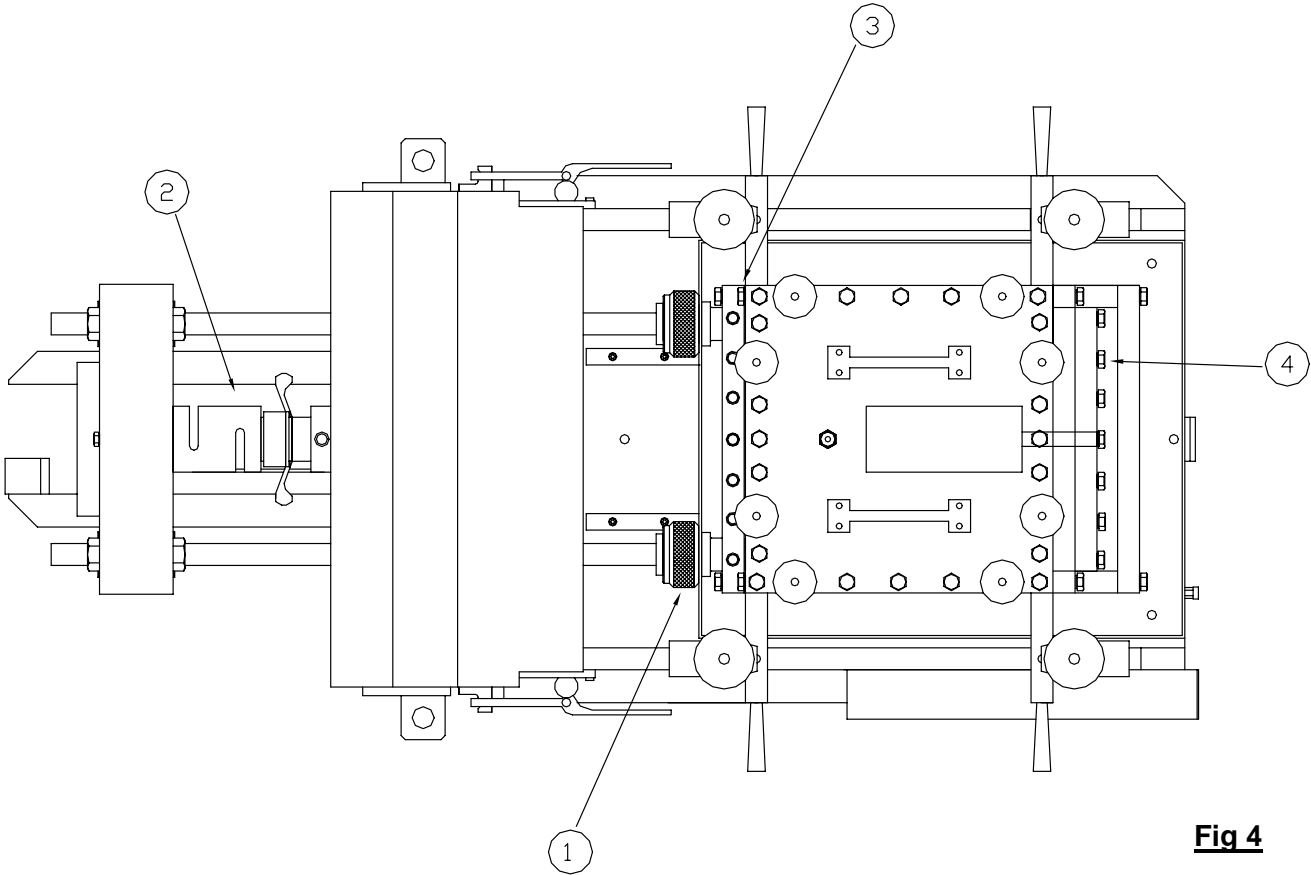

Fig 4
- 1.6 Screw the coupling nuts (Figure 4, Item 1) on the drive unit tie rods onto the threaded end of the Shear Box tie rods. If the nuts won't reach the Shear Box tie rods, pull the Shear Box closer. If the rods appear to be set at different lengths, refer to the troubleshooting section in this manual for further instruction.
- 1.10 Check to ensure that the load cell (Figure 4, Item 2) cable is plugged into Channel 1. The cables are tagged with the channel number and the sockets are labeled.
- 5.3 Loosen the nuts (upper box clamp; Figure 4, item 4) or the bolt (lower box clamp; Figure 4, item 3) enough to provide the appropriate gap for the membrane.